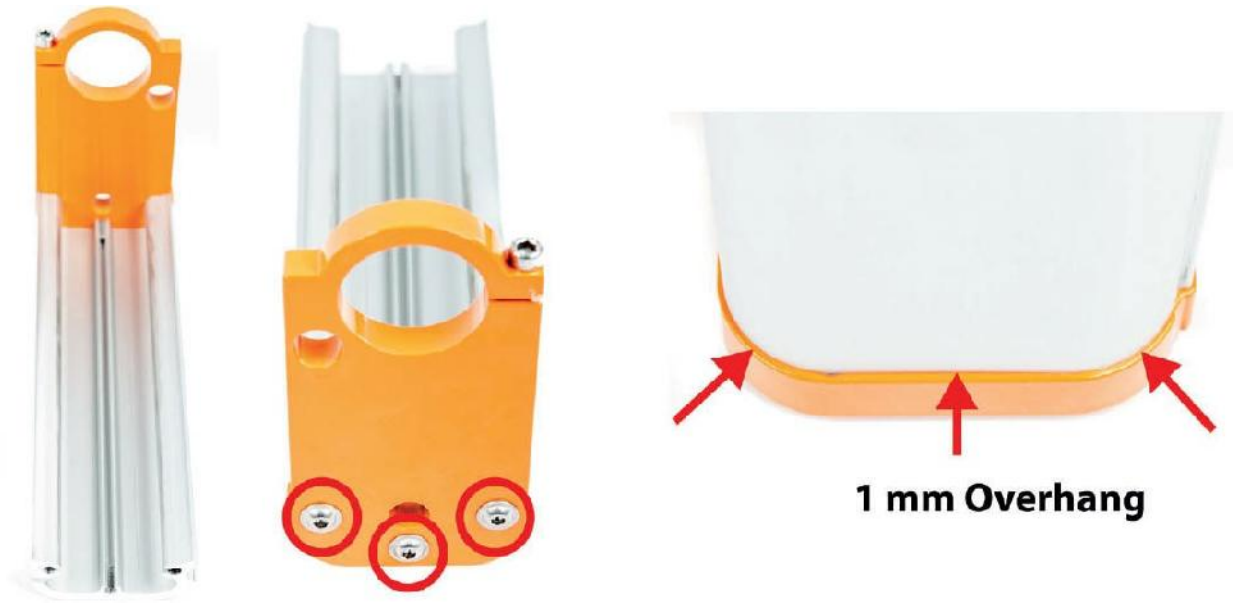

Fig. 2.26 *Attaching the lead screw motor holder*
8. Adjust the position of the lead screw motor holder so that there is a small overhang all around its edge (see figure 2.26), then tighten the bolts.